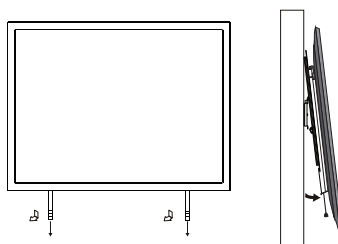

Figure 7 - Removing TV from wall.
1. Unfold LockEase tabs and pull down on each to unlock arms. Whilst pulling down on tabs swing bottom of TV away from wall slightly. See Figure 7.